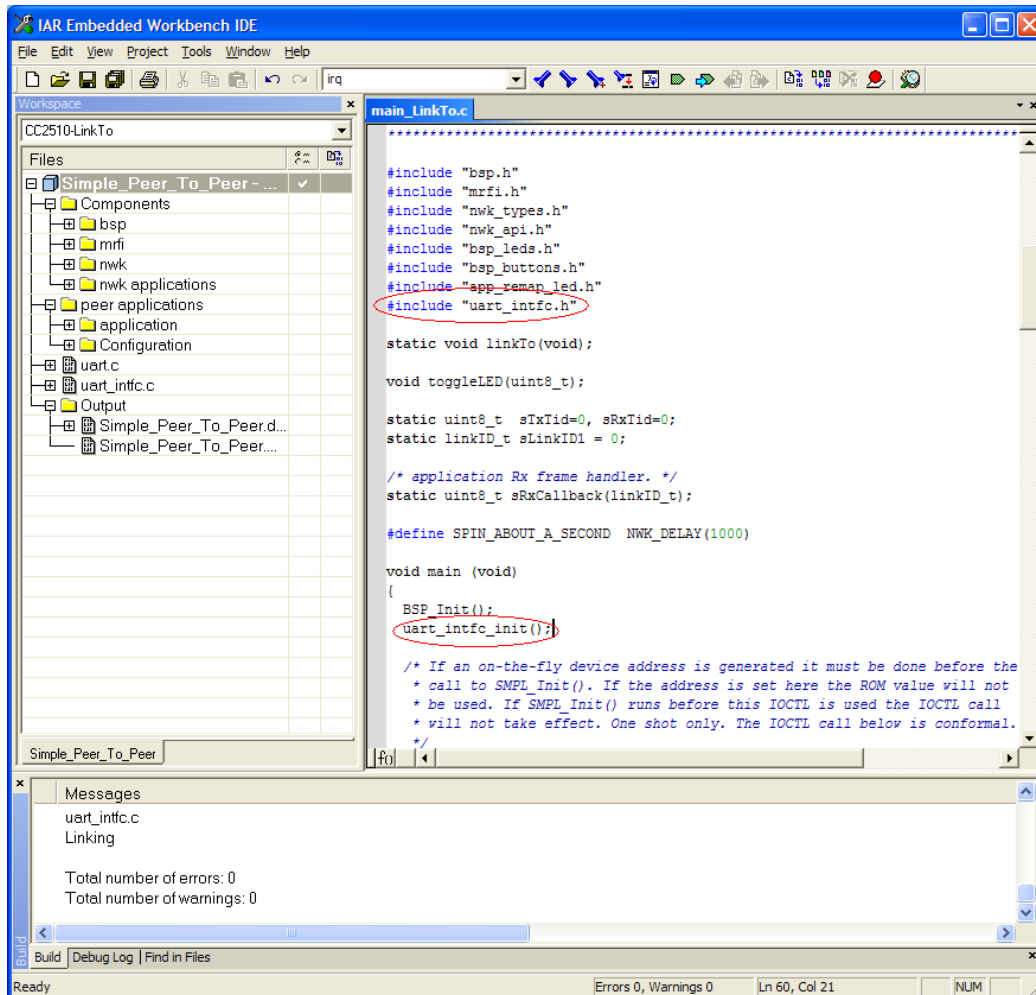
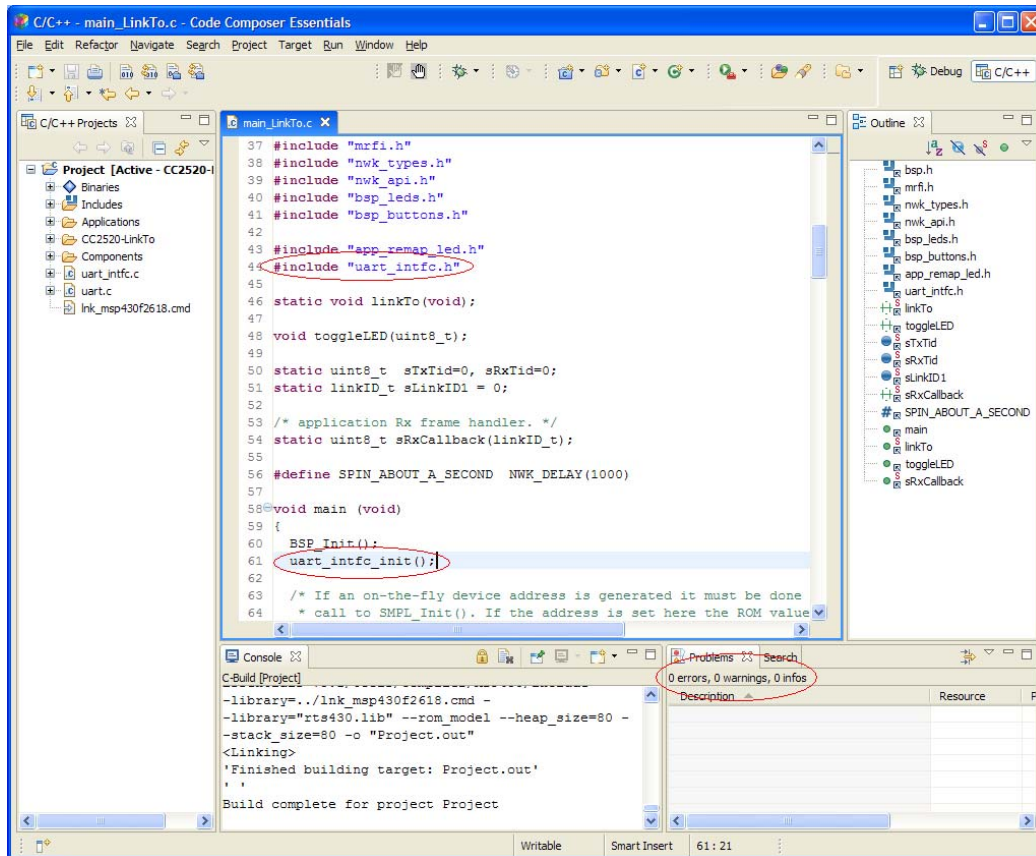

Figure 2. No build errors after successful driver install and initialization in IAR
Figure 4. No build errors after successful driver install and initialization in CCE
3. In the main C file of the project, include `uart_intfc.h` and add a line of code to call `uart_intfc_init()` after the call to `BSP_Init()` (as shown in Figure 2). Rebuild the project. The project should compile with no errors. The other UART API functions can be called after `SMPL_Init()` has been called.
3. In the main project C file, include `uart_intfc.h` and add a line of code to call `uart_intfc_init()` after the call to `BSP_Init()` (see Figure 4). Rebuild the project. The project should compile with no errors. The other UART API functions can be called after `SMPL_Init()` has been called.
2. Per the instructions in Section 4, extract the UART driver files, configure the UART in `options.h`; and set up the project. The default Simple Peer-to-Peer project should compile with the minor changes to `main_LinkTo.c` as shown in Figure 2 and Figure 4.